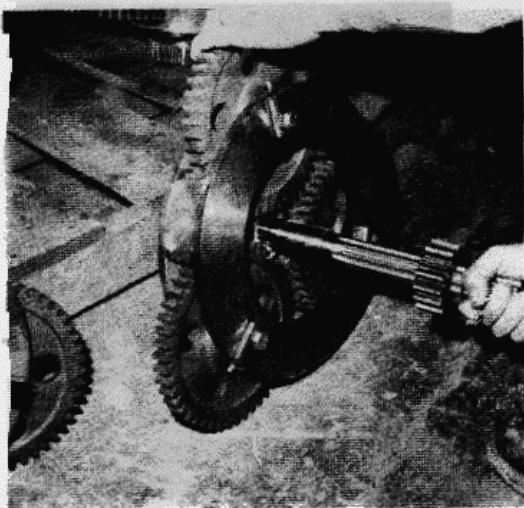

FIGURE 8-35.
p. Assemble brake shaft into inner planetary gear (see figure 8-35).